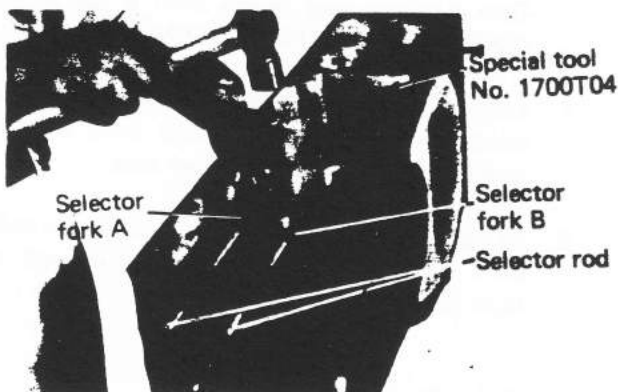

Fig. 8 Remove the Selector Fork
1. Pull out the spring pins 0.236 in. (6 mm) securing the selector forks (A) and (B) fitted to the selector rods (A) and (B) with a special tool (1700T04 SPRING PIN INSTALL AND-OUT TOOL) (Fig. 8).
3. Unscrew four screws (M8) and pull out the selector rod housing (R.H, L.H) together with the selector rods (A) and (B).
Remove the selector fork (B) (Fig. 8).